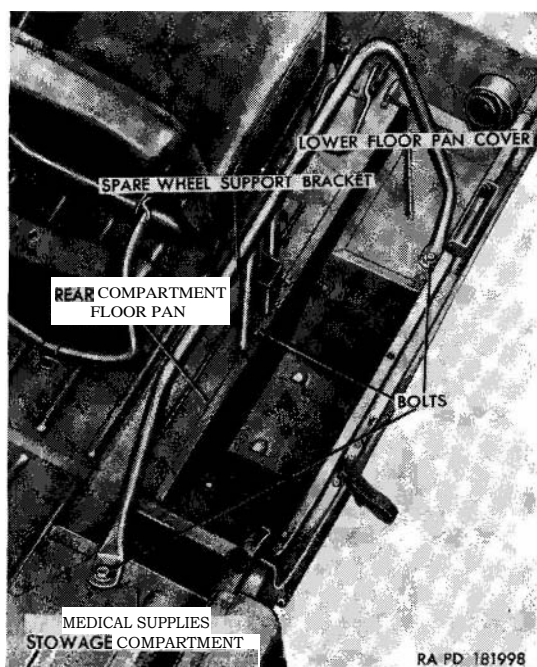

Figure 162.1. (Added) Spare wheel support bracket M170.
a.1. (Added) Spare Wheel Support Bracket M 170 (fig. 162.1). Remove the spare wheel and tire assembly (par. 45.1). Remove the three bolts securing the bracket to the lower floor pan cover, rear compartment floor pan cover, and medical supplies stowage compartment and remove bracket from vehicle.
*a.1. (Added) Spare Wheel Support Bracket 111170* (fig. 162.1).
- g. Install the fuel line nut to the fuel filter assembly (fig. 162.1).